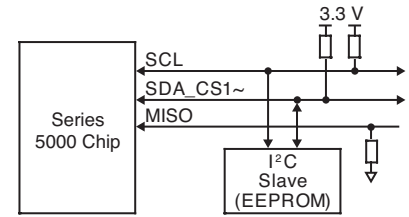

Figure 3: Using the I2C Interface for External NVM EEPROM Memory
**Using the I2C interface.** When using the I2C interface for external EEPROM, the FT 5000 Smart Transceiver is always the master I2C device (see Figure 3). The clock speed supported for the I2C serial memory interface is 400kHz (fast I2C mode). The I2C memory device must specify I2C address 0. Both 1-byte and 2-byte address modes are supported, but 3-byte addressing mode is not.